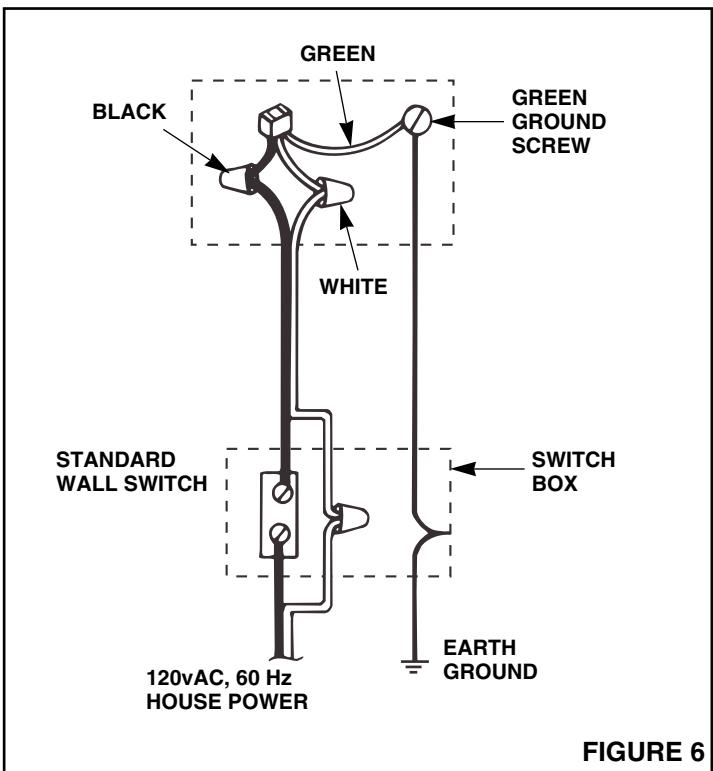

FIGURE 6
3. Refer to Figure 6. Connect supply wires to ventilator wires: black to black, white to white. Connect ground wire to green ground screw.